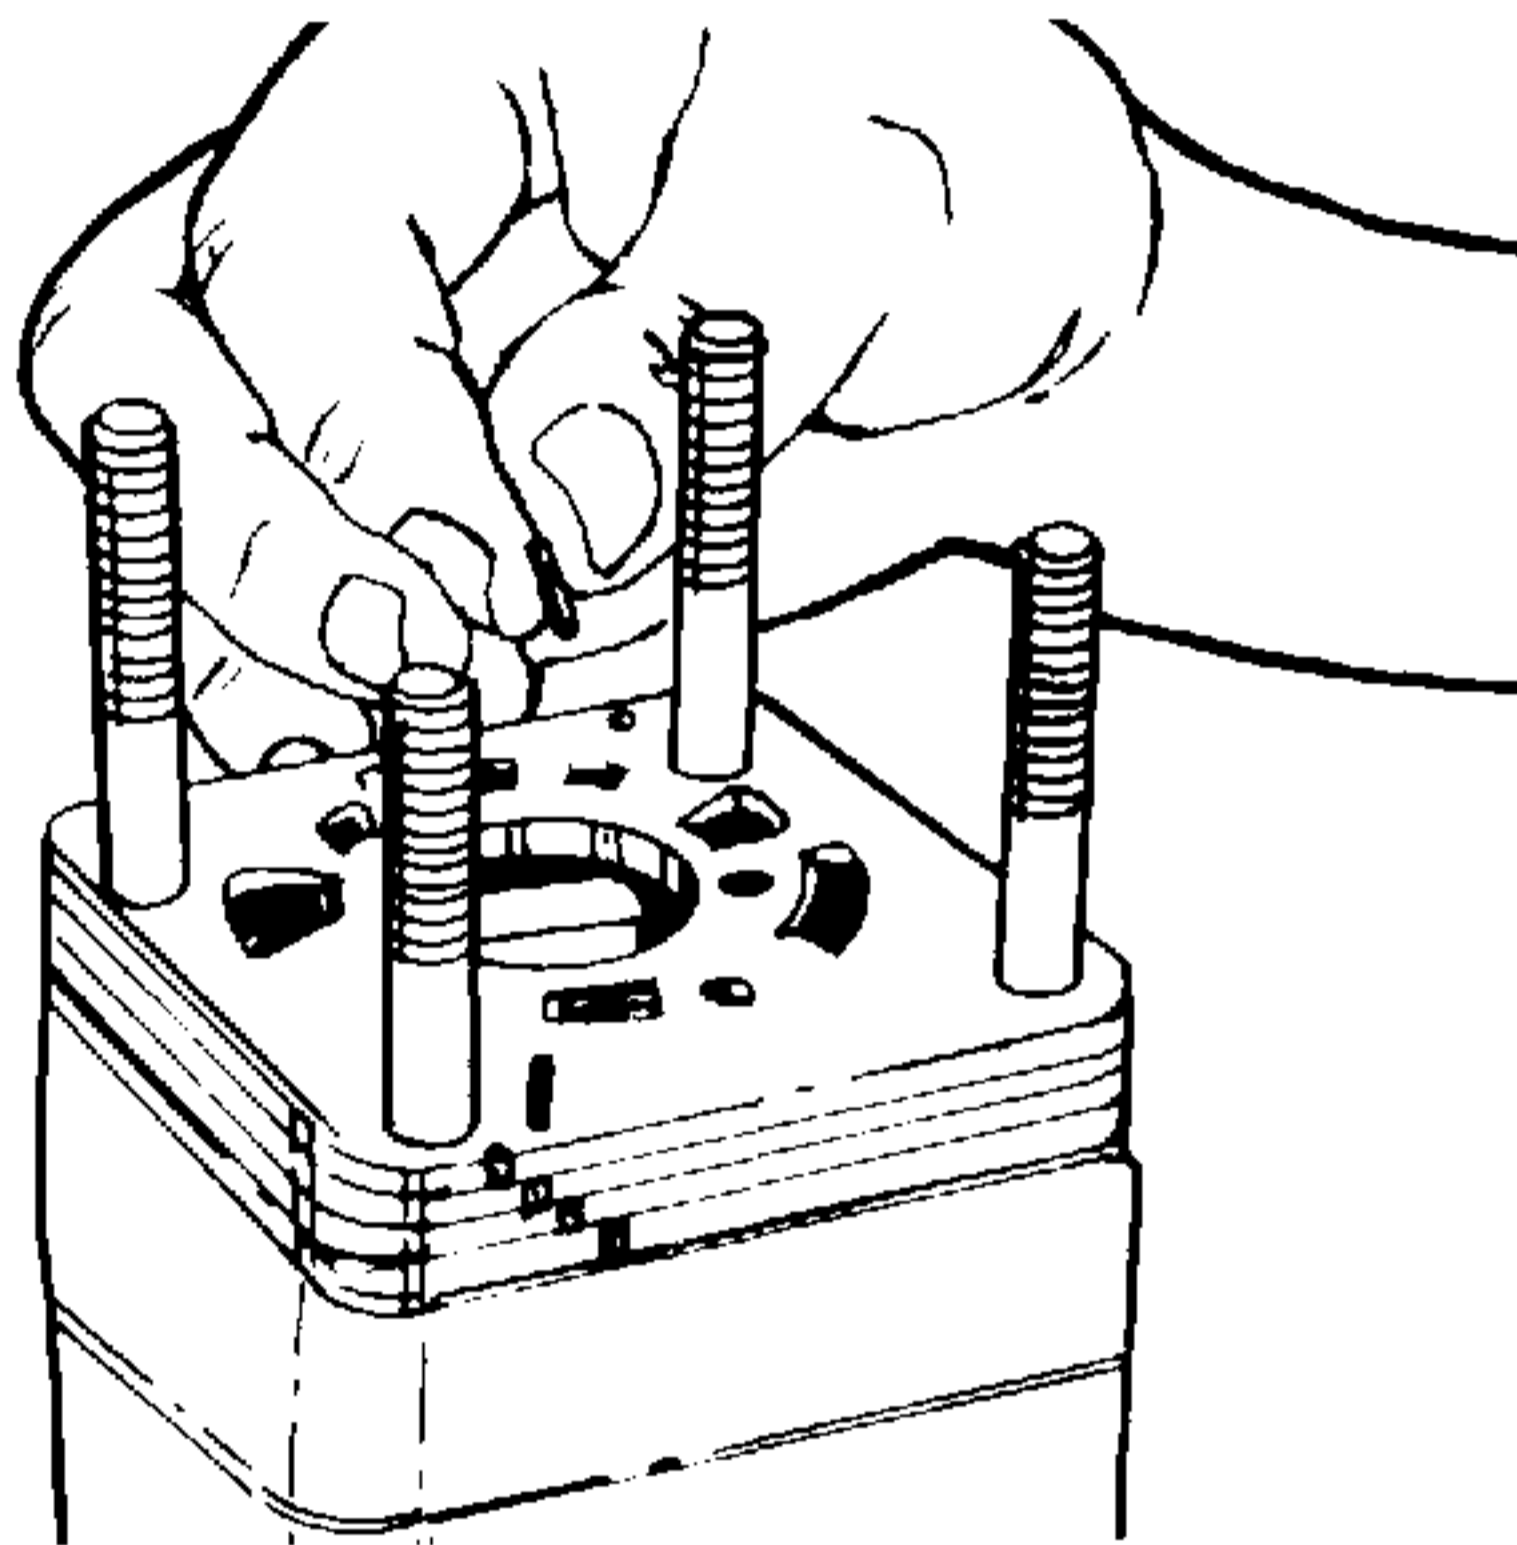

Figure 4-17. Removing Needle Rollers.
17. Remove the two needle rollers (11) that align port manifold (6), valve ring (12) and isolation manifold (13). See Figure 4-17.